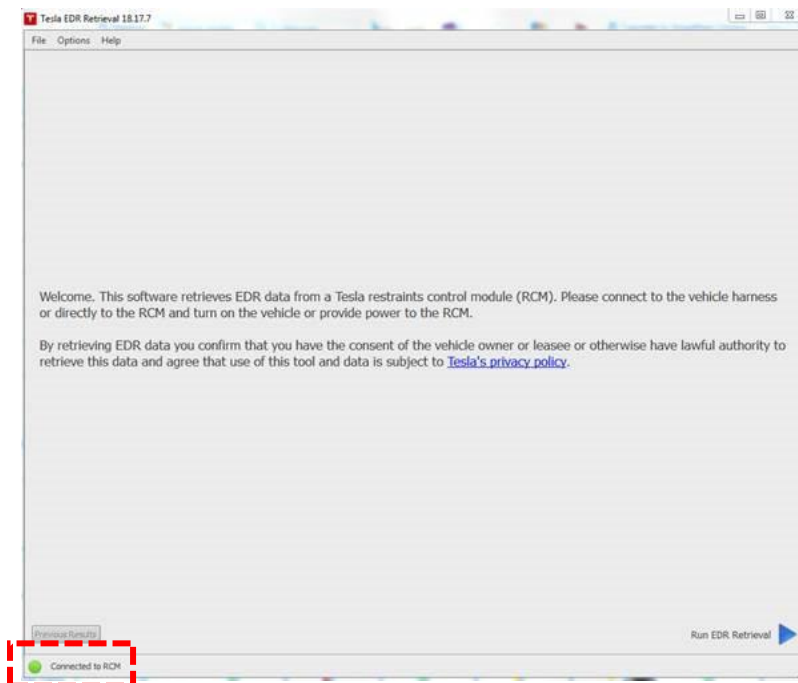

Figure 52. EDR program successful connection
- When connected properly, a green circle and the message “Connected to RCM” displays on the bottom left corner of the window (Figure 52).